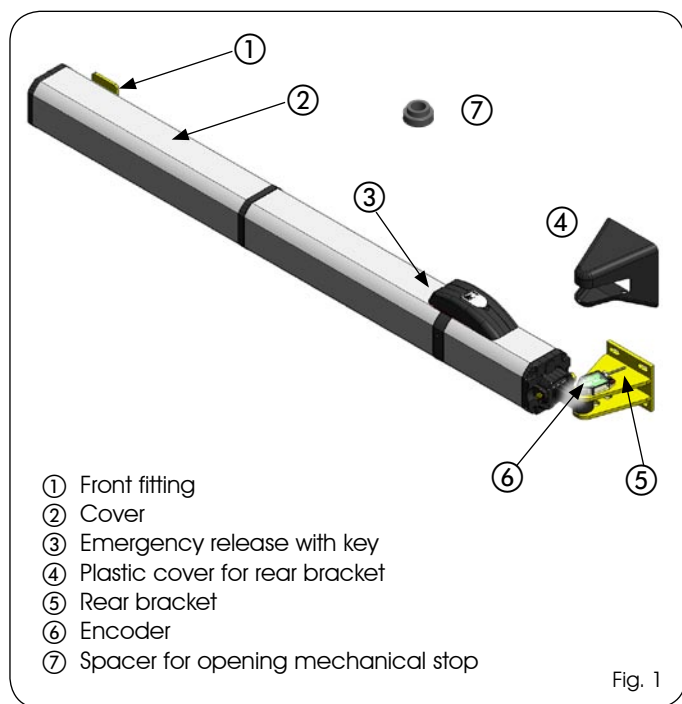

Fig. 1
\* Not necessary in case of use of opening mechanical stops inside the operator (Fig. 1 re.⑦)